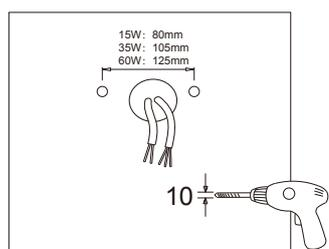

Figure 4
1. Drill holes on the wall as shown. (Figure 4)